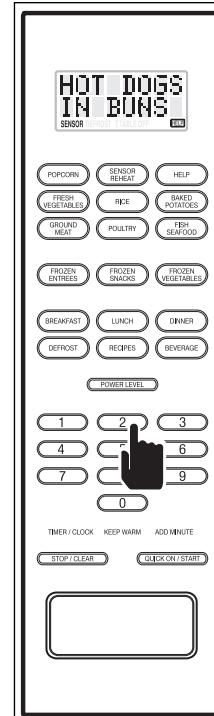

Figure 3-64.
2. Press the desired number for the food or recipe, based on the information found on the label affixed to the door sealing surface, just above the oven cavity, or in the Use and Care Guide. For this example, the number 2 key is pressed and "HOT DOGS IN BUNS - PRESS START" flashes on the display (See Figure 3-64).